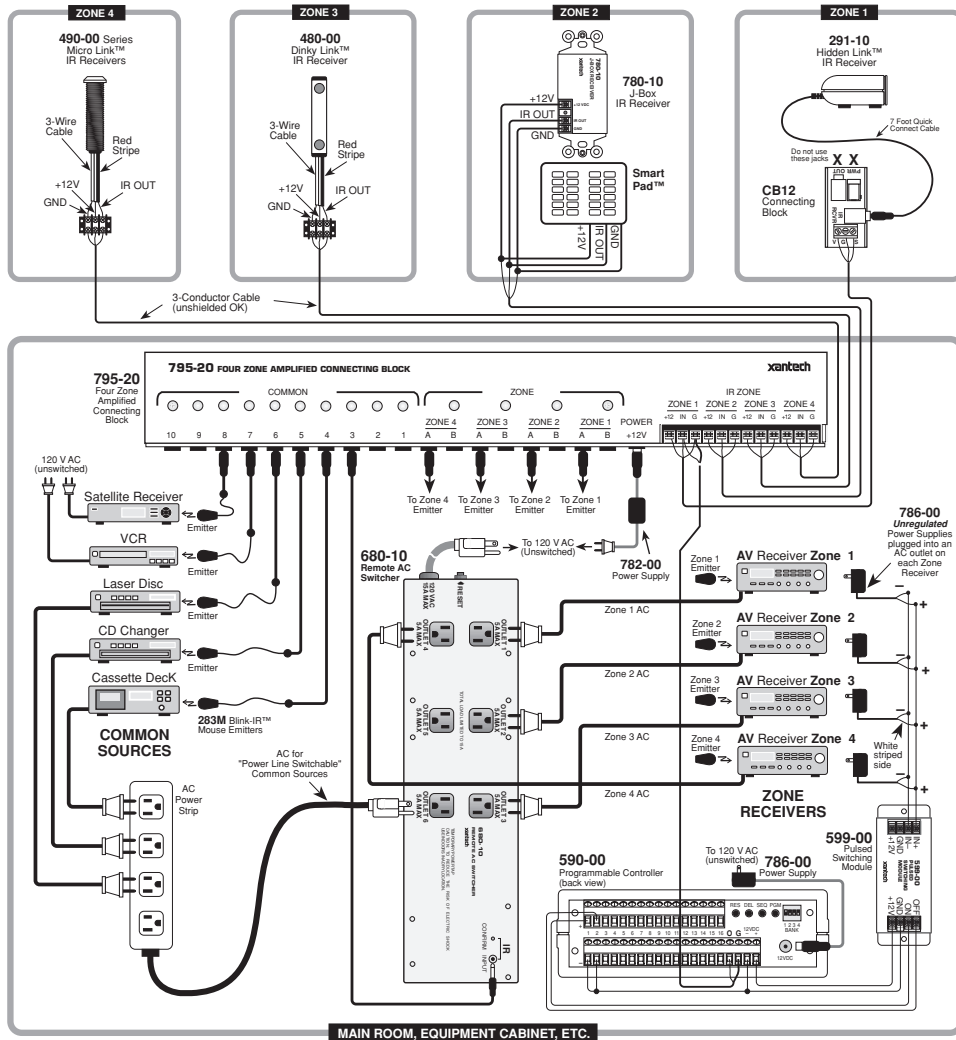

Fig. 3 A typical application of the 680-10 for AC switching in a 4-zone system.
Fig. 3 illustrates an installation where a 680-10 Remote AC Switcher, along with a 599-00 Pulsed Switching Module and a 590-00 Programmable Controller, provides the AC power management in a 4-zone system. It allows each zone AV receiver to be turned ON and OFF from their respective remote rooms with separate ON and OFF IR commands. This permits exclusive ON/OFF AC power switching without the need for knowing status. It also allows the common sources to be switched ON when the first zone AV receiver is turned on and OFF only when the last zone AV receiver is turned off. The system in **Fig. 3** is configured as follows:
6. The common source components that can remember their ON condition when their power cords are unplugged, are all powered from the #6 outlet on the 680-10. Those that cannot, such as the VCR and the Satellite Receiver shown in **Fig. 3**, must be plugged into unswitched outlets and receive their IR power commands from the 590 through the 795 and the common emitters.